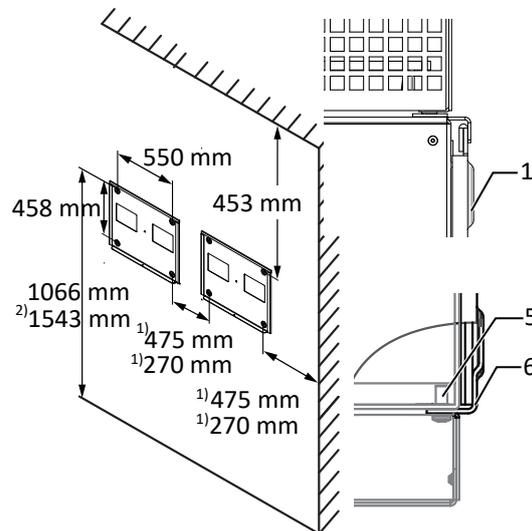

Fig. 12: Wall mounting
- Minimum clearances to be observed during installation: [See figure 12 [► Page 18]]
2. Fit the device onto the upper mount by means of the mounting bracket. Fit the device onto the lower mounting bracket in full so that the device sits flush with its rear side on the mount ([See figure 12 [▶ Page 18]]).